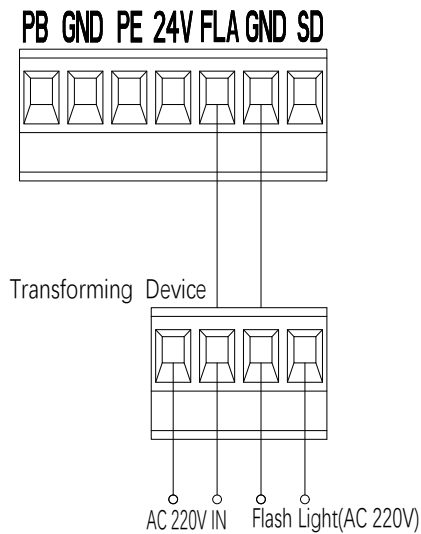
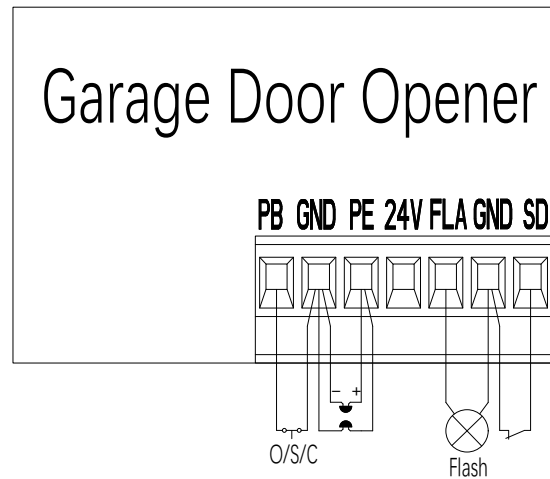

Figure 3
Figure 4
2. Flash light function.(Fig.3, Fig.4)
3. Pass door (SD)protection (Fig.3, Fig.4)
4. External power supply (BAT) and antenna (ANT), WIFI port.(Fig.4)